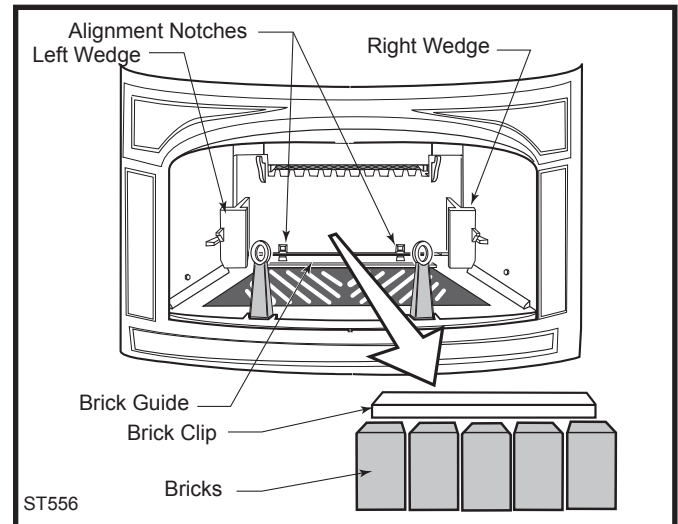
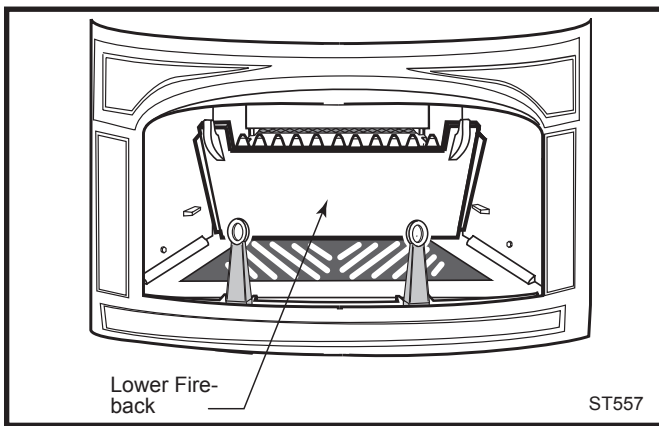

Fig. 7 Remove the bricks and brick retainer.
Fig. 8 Remove the lower fireback.
5. Remove the firebricks. Lift off the steel clip and remove the firebricks individually. (Fig. 7)
6. Tap the left and right wedges upward with a rubber mallet or a hammer and block of wood to protect the cast iron. (Fig. 7) Remove the wedges and remove the lower fireback by pulling its top edge toward yourself. (Fig. 8) Lift the lower fireback out of the firebox and set it on a shielded surface.
- Stand the five firebricks on end in front of the lower fireback. Note that these stand behind a raised rib on the firebox floor. (Fig. 7) Join the firebricks by slipping the steel clip onto their top ends. The clip's longer edge should go behind the firebricks, for easier installation.